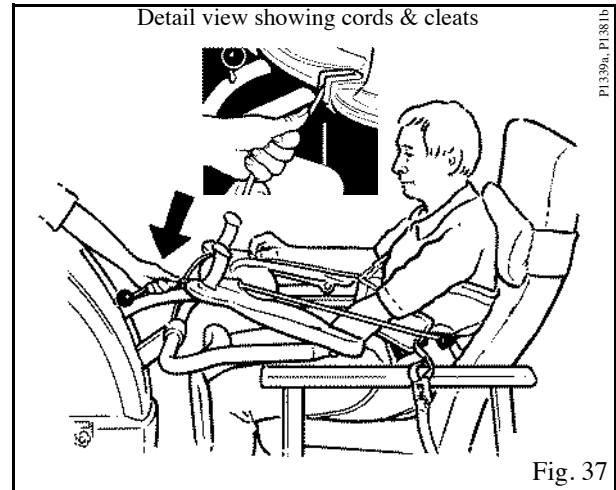

Fig. 37
**Warning:** Lock the adjustment cords down into the cord retaining cleats. (See Fig. 37).